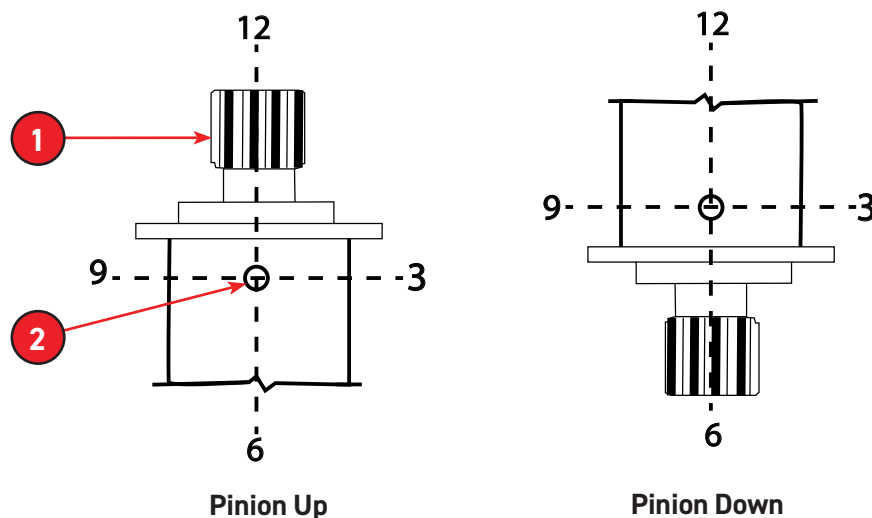

Fig 6 - Swing Drive Port
- Install the new WAD Sensor, by inserting the threaded end of the sensor into the sensor port of the swing drive (see Fig. 6) by hand, thread it clockwise until the end of the sensor makes slight contact with the gear inside the swing drive housing. Do not force the sensor any past this point, as you may damage the sensor.